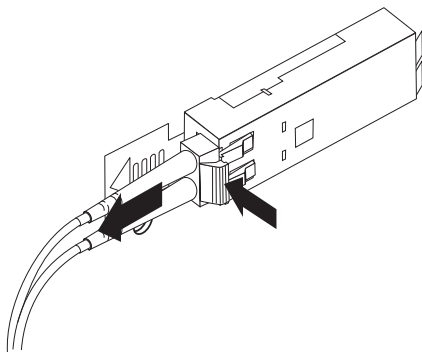

Figure 35. Removing the LC-LC Fibre Channel cable
2. Carefully pull on the connector to remove the cable from the SFP module, as shown in Figure 35 on page 58.